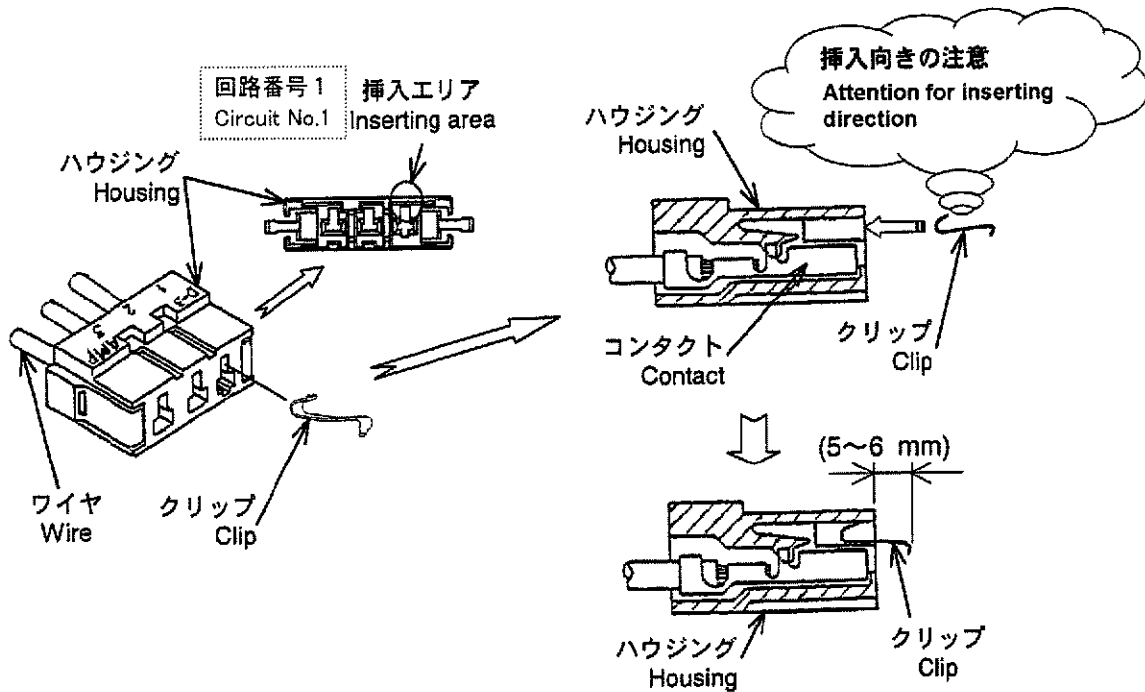

Fig.2
- (1) 片手でハウジングを保持しながら、他方の手でクリップをハウジングの回路番号1のところに仮挿入します。(Fig.2を参照)
- (1) Pre-insert a clip to circuit No.1 entrance of housing by a hand with keeping the housing on another hand. (Fig.2)
NOTE Keeping the housing so that a 'AMP' mark on it is in top direction. Make sure the inserting direction of the clip during inserting it. (Referring the inserting area shown as in Fig.2.) Also, do not pre-insert the clip too far into the housing during insertion. Please pre-insert the clip to the housing so that it is protruding about 5-6 mm from the end surface of the housing shown as in Fig.2.